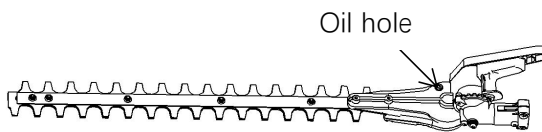

Fig 13
- Add 5-8 grams of lithium grease into the oil hole (Fig 13).